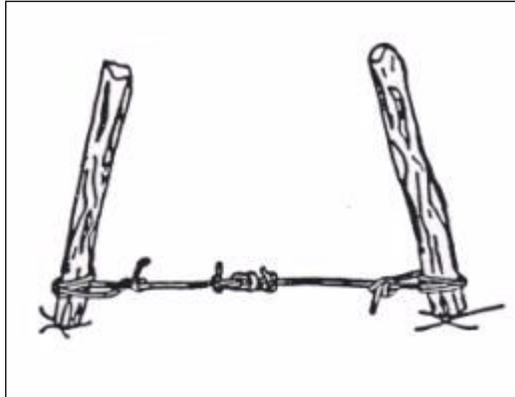

Figure 5
- (b) If one utility cord is not long enough, join two cords together (See figure 5).